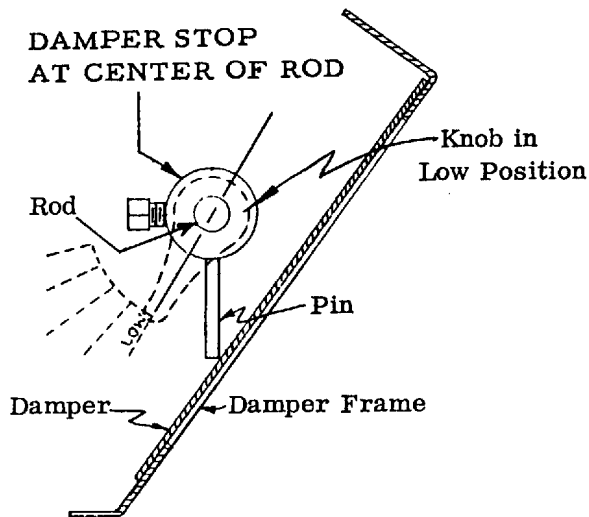

FIG. 2
2. Place the pointer of the control knob at the low position (Fig. 2), with damper fully closed, push the pin on the damper stop (in center of rod) down until it hits the damper, tighten set screw securely.
1. Place bag in position on buck, Fig. 1. Center top edge of Pants Topper bag with center of knob (A). Install retainer (B) over drawstring sheath (X), Fig. 2 or 2A. Tighten three sheet metal screws. Open zipper (C) Fig. 1.
2. Loop drawstring over spool (N) Fig. 2 or 2A. Place drawstring sheath in groove (Y). Loop drawstring around spool (P) as shown; pull loose ends of drawstring tightly and tie-off at (Z).